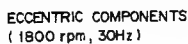

Fig. 3-4
Actually, since the spindle servo functions so that the period ① in Fig. 3-4 is separated by about $1/2H$, eccentricity components of approx. $\pm 30 \mu s$ can be absorbed by the line memory and time axis correction is made possible.
Since the PBH period is longer than the REFH period at point (B) in Fig. 3-4, the 1H period is longer than usual, and is shorter at point (C). (See Fig. 3-5.)